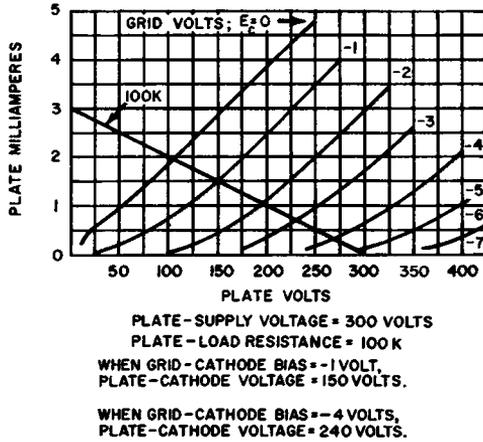

Fig. 9-2. Typical variation of plate voltage with grid bias.
1. Control grid less negative than it should be with respect to the cathode (Fig. 9-2).